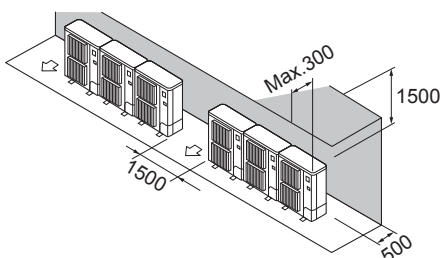

Fig. 2-10
- ② Obstacles at rear and above only (Fig. 2-10)